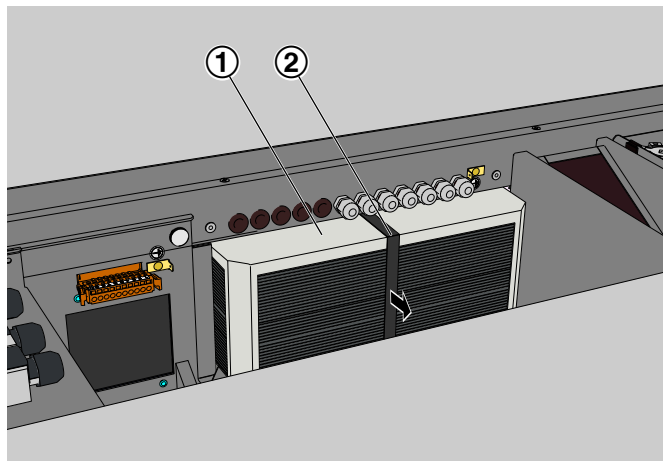

Fig. 29
8. ▶ Grasp the recuperative heat exchanger (Fig. 29/1) by the lug (Fig. 29/2), pull it out and lift it up.
Rinse the recuperative heat exchanger (Fig. 29/1) with hot water (40 °C max.), e.g. by using a commercially available shower head.